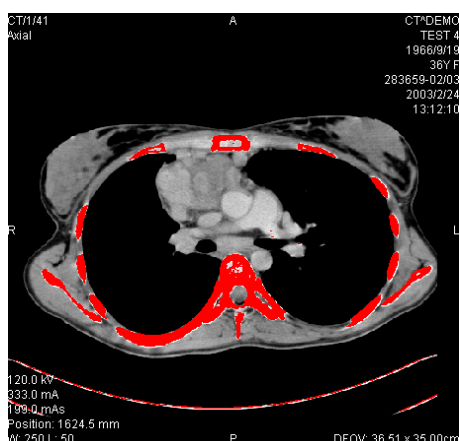

Figure 271 – Segmented image with threshold selection, contouring bones
4. Select the **Lower** and **Upper** grayscale values for the search process. All grayscale values within the selected threshold value range will be considered as matching. This can be seen in the current view – the matching regions are displayed in red while the remainder appears in black (see Figure 271).